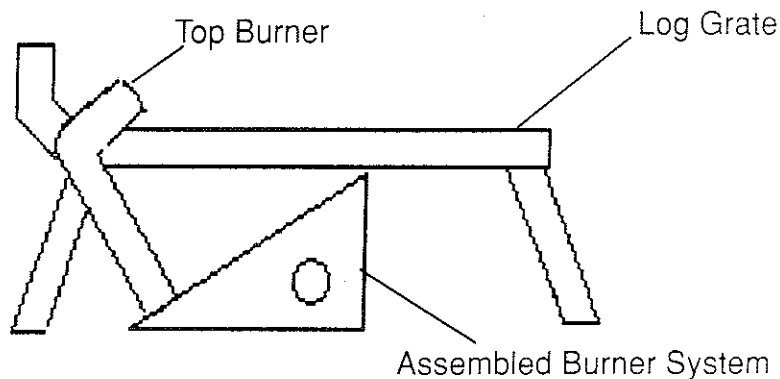

Figure 9
12. Slide the top burner from the assembled burner system over the front part of the log grate. (See Figure 9.)